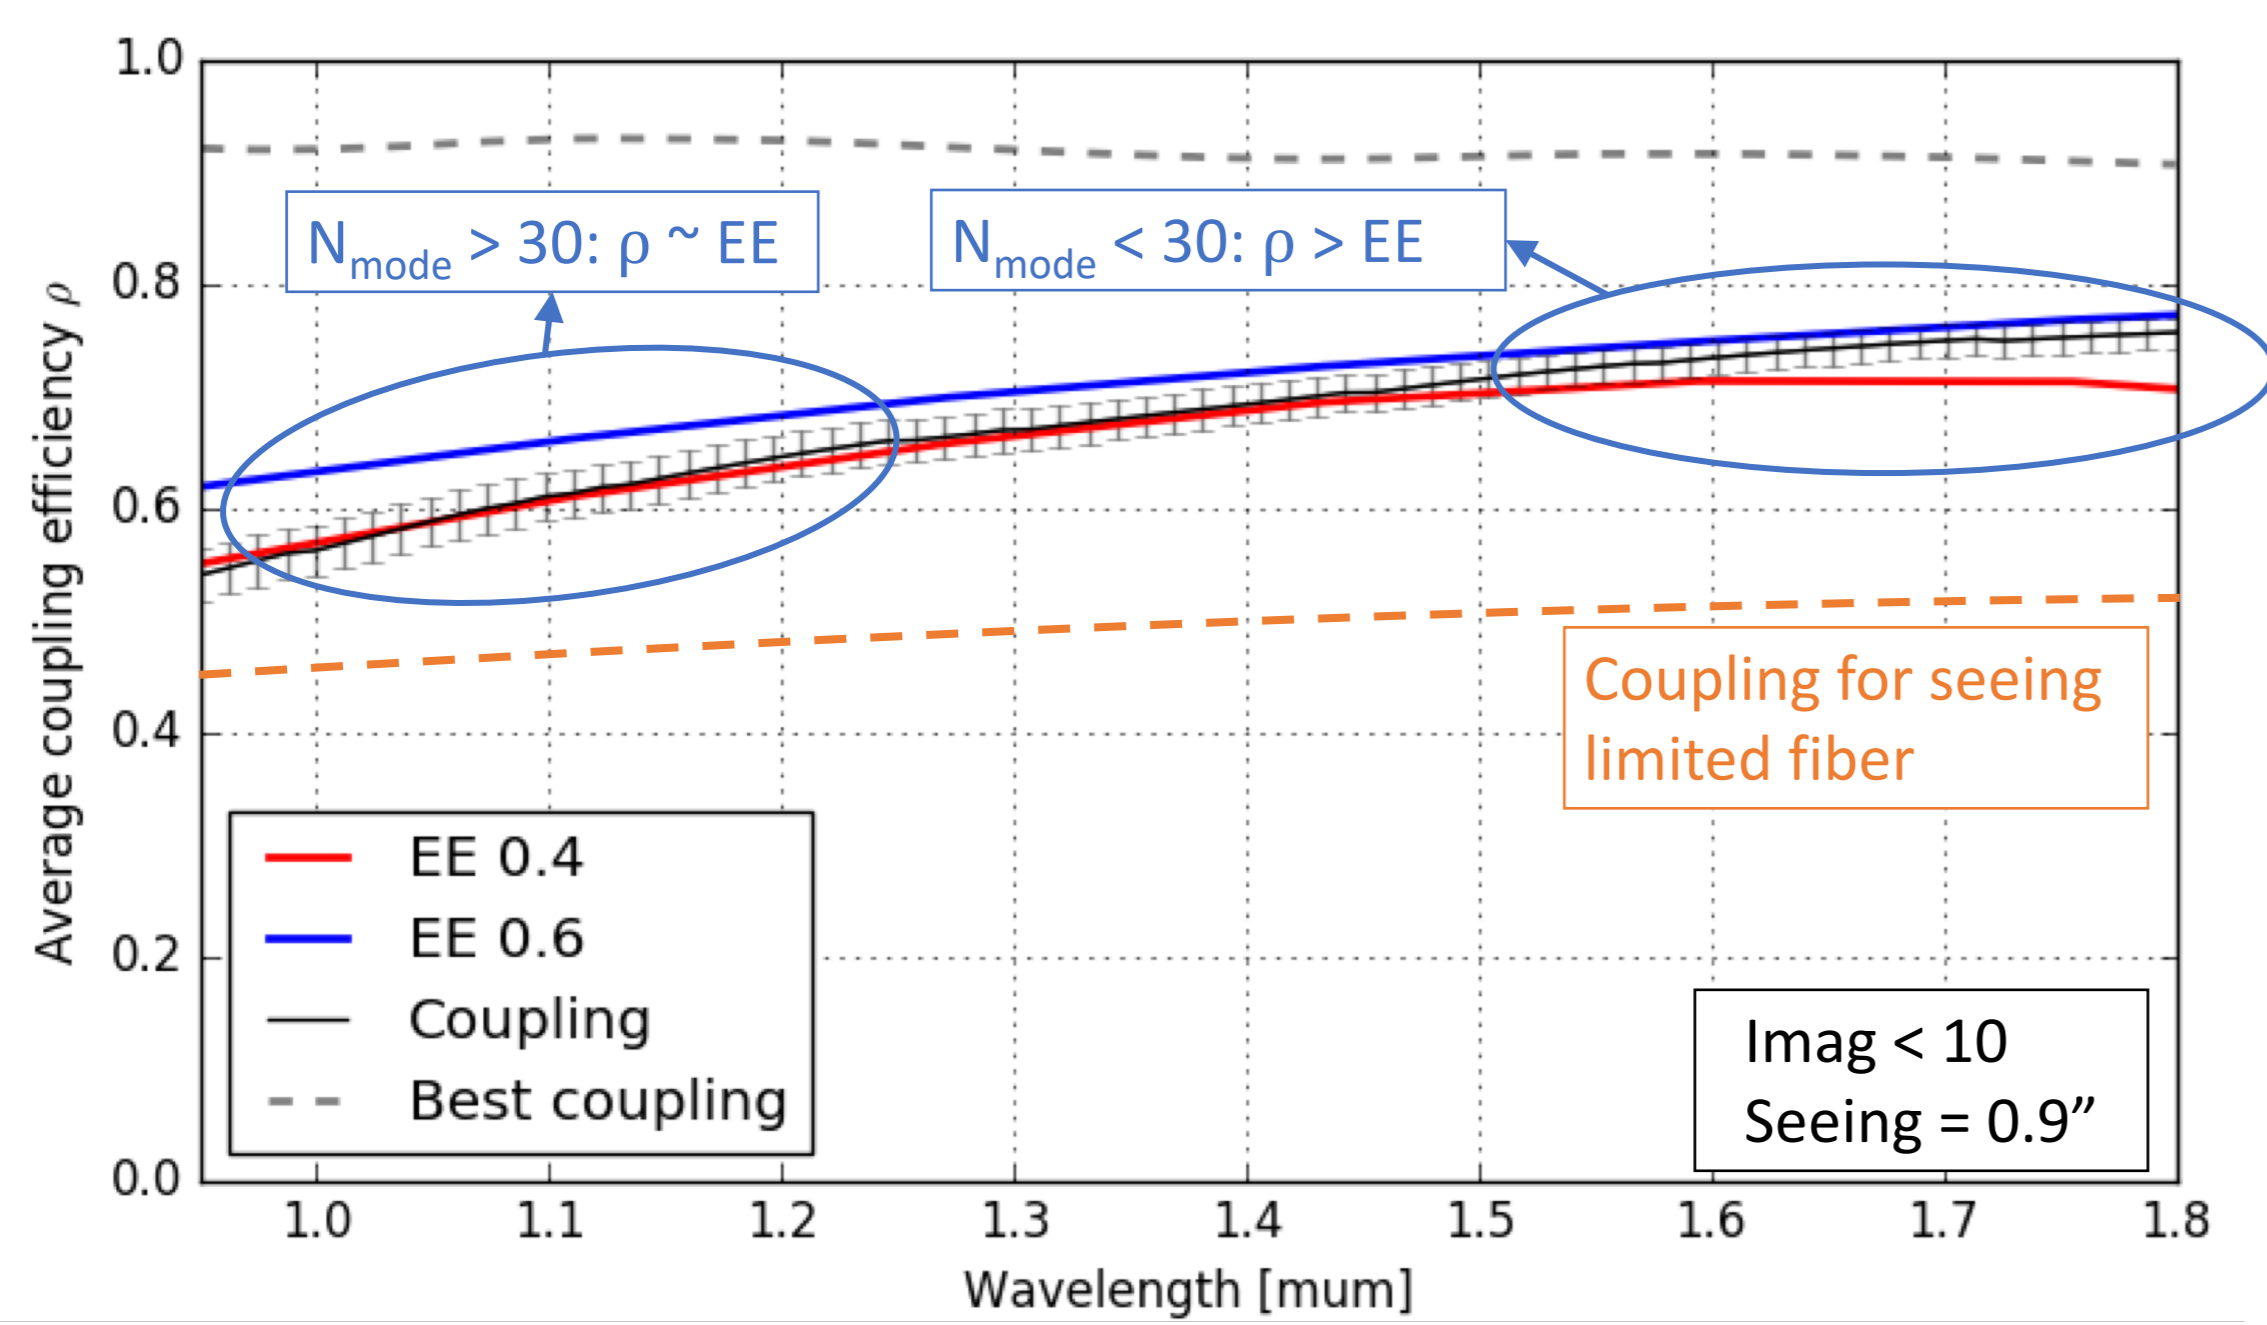

Fig. 1 - NIRPS coupling efficiency in standard median conditions
- Coupling efficiency can outperform seeing-limited instrument by 30 to 50% (Fig. 1)